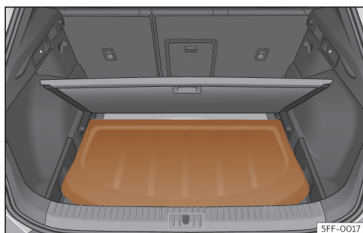

Fig. 176 In the boot: fitting the rear shelf.
- Place the rear shelf in the corresponding housing >>> **Fig. 176**.